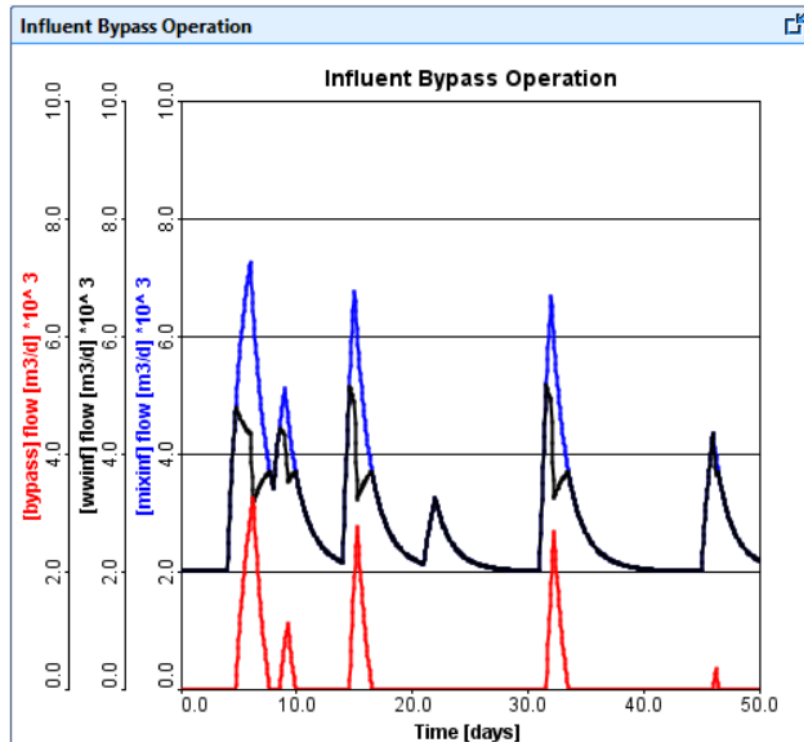

Figure 15-11 - Output of the "tutorial-15-Delay" Python Script
27. **Run the Script.** A sample output can be seen in **Figure 15-11**. Note: your output will appear different due to the randomness in this script.